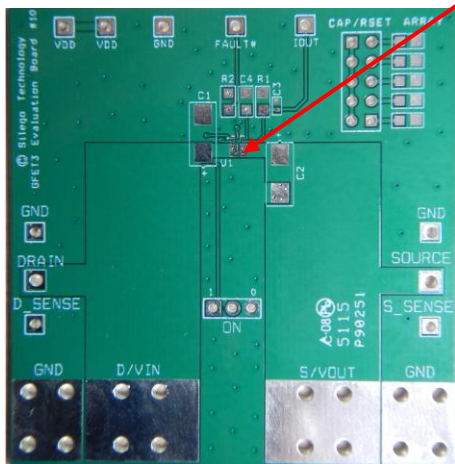

Figure 3. SLG59M1709V Evaluation Test Board
Please note how the VIN and VOUT pads are placed directly on the power planes in Figure 3, which minimizes the RDS(ON) associated with long, narrow traces. The VIN and VOUT pins dissipate most of the heat generated during high-load current condition. The layout shown in Figure 3 is illustrating a proper solution for heat to transfer as efficiently as possible out of the device.